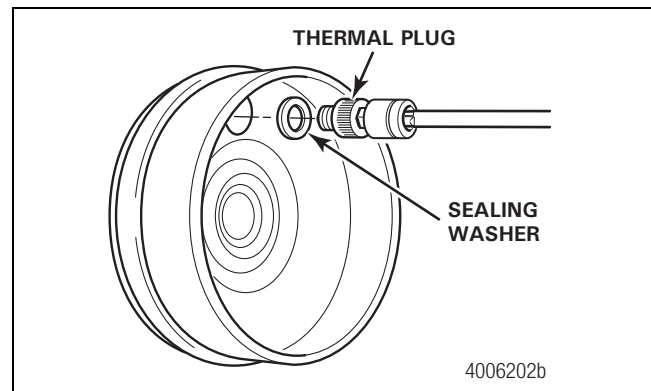

Figure 3.26
- I. Remove the thermal plug with a 5/32-inch (4 mm) Allen-head socket. Figure 3.26.